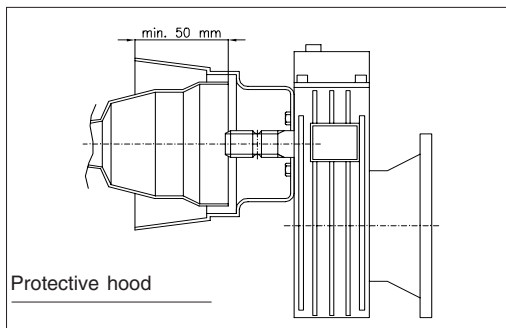

fig. 1
- a) the protective hood (fig.1) is attached, in good order and properly anchored. The hood must cover the gimbal ring guard by at least 50mm and must prevent accidental hand contact with moving parts.